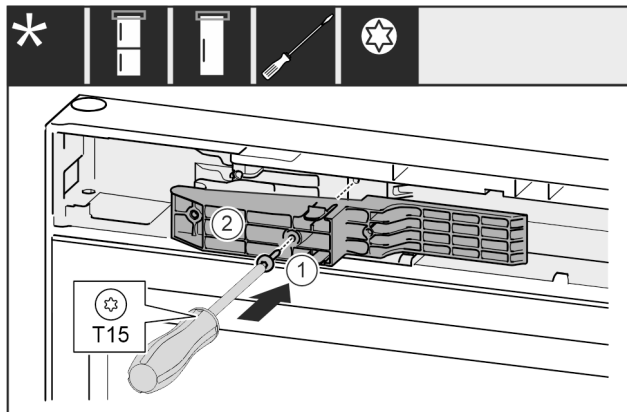

Fig. 68 *
- ▶ Insert adapter Fig. 68 (1) in the recess on the handle side.*
- ▶ Tighten screw Fig. 68 (2) with screwdriver.*